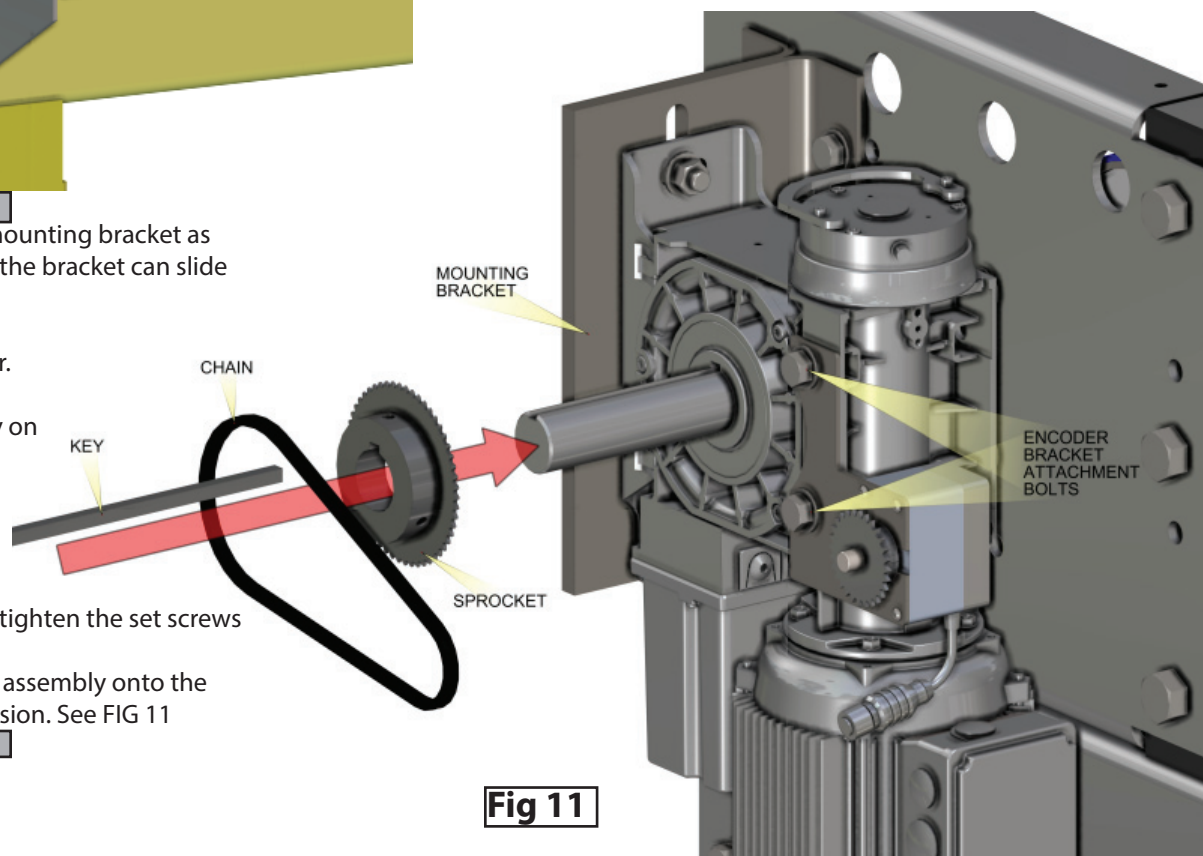

Fig 11
- Install the sprocket by sliding it onto the shaft and attach the chain to this sprocket and the encoder sprocket as shown in FIG 11.
- The encoder bracket attachment bolts, holding the encoder assembly onto the motor, may need to be adjusted to achieve proper chain tension. See FIG 11